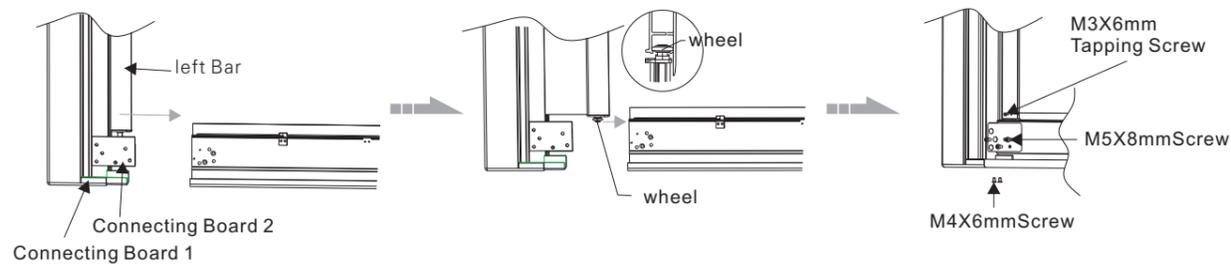

figure 2
2. Pull up the left bar to a suitable distance, and then attach the wheel into the groove of concave frame bar. Insert the connecting board 1 and the connecting board 2 into Concave Frame Bar (please operate together in two sides). Finally, fasten the corresponding screws: figure 2